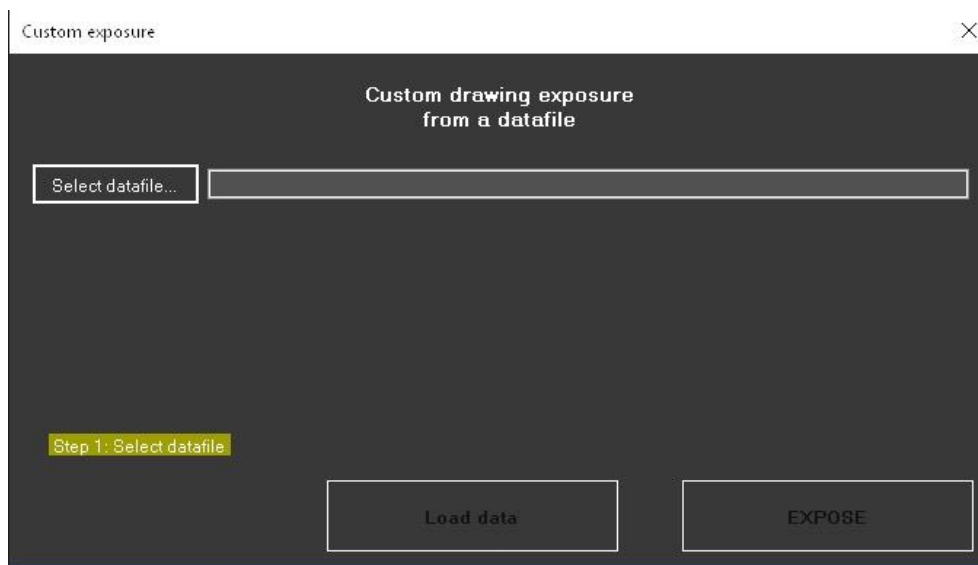

Figure 42 – Custom exposure window at startup
- In the **Custom exposure** window, select a compatible parameter file by clicking on **Select datafile** (Figure 42)